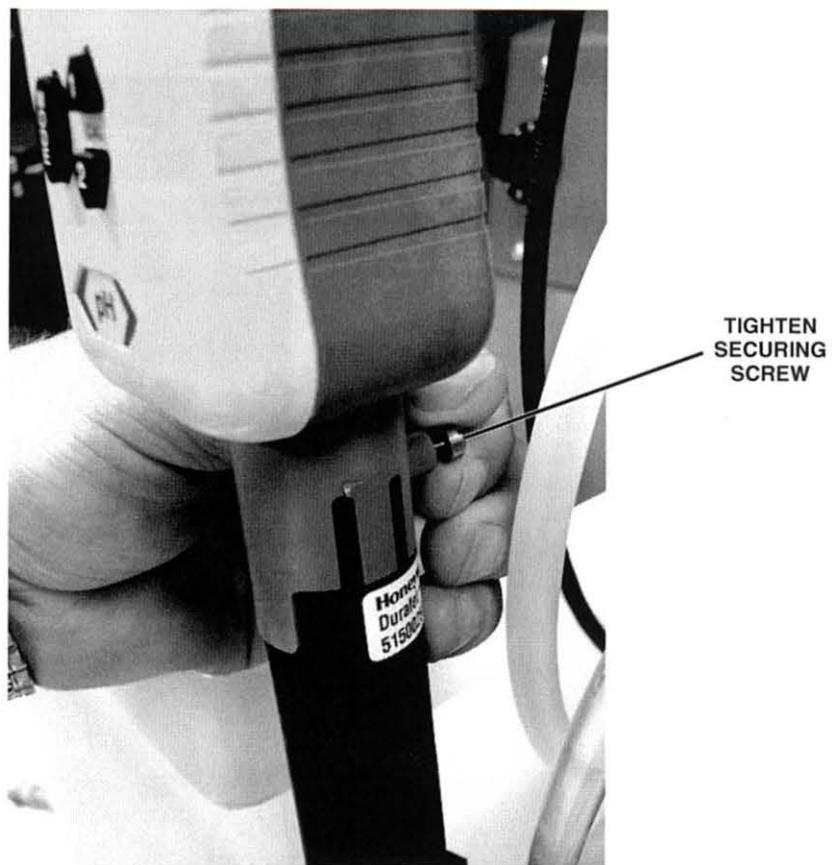

Figure 19. Tightening the Securing Screw
- D. Tighten the securing screw by turning it clockwise, as shown in figure 19.